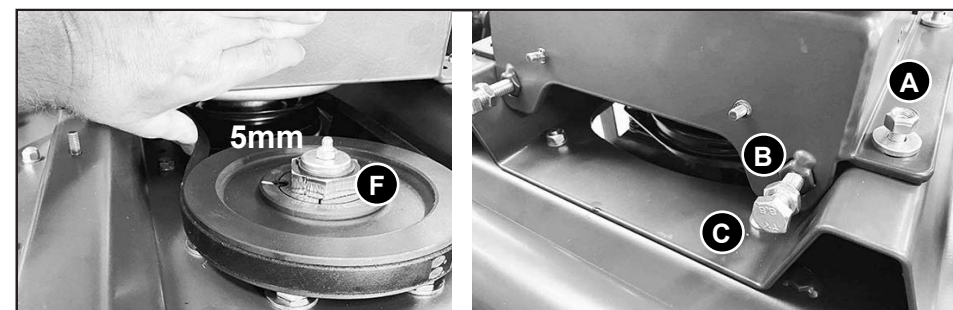
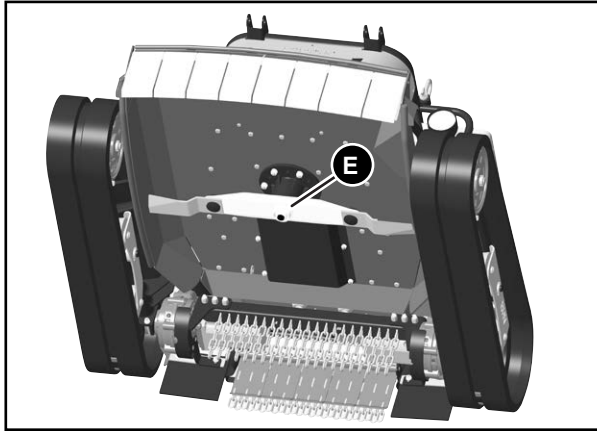
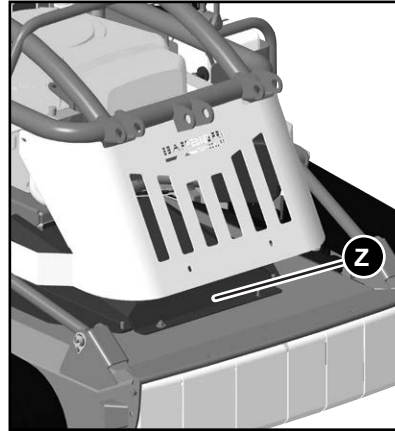

Fig. 28
Fig. 29
Fig. 7
To adjust the belt, remove the belt cover (Fig.7 (U)). Check the tension with a force of 5 kg on the belt. The bending depth of the belt should not be more than 5 mm.
If necessary, adjust the belt tension according to these instructions (Fig. 29).
For easier loosening of the blade fixing screw (E) (Fig. 29) remove the belt guard (Z) (Fig. 7). Lock the nut (F) (Fig. 28) to prevent rotation of the pulley shaft..